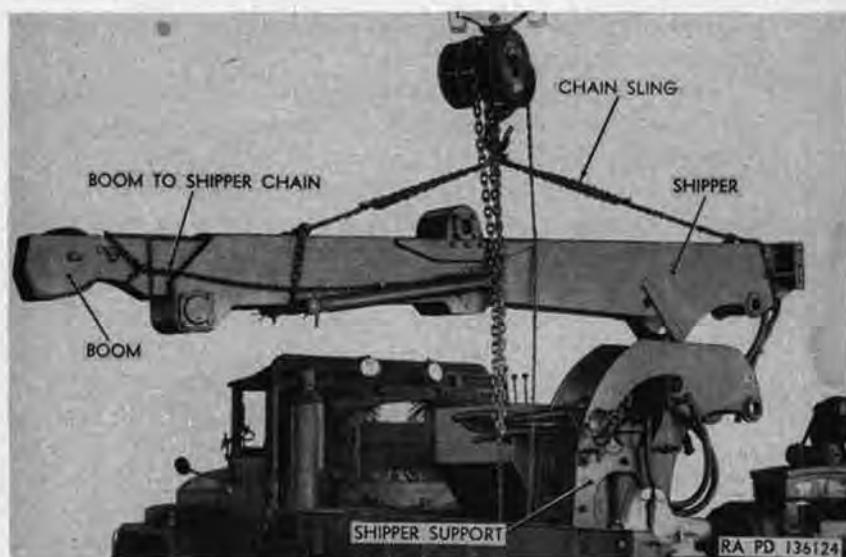

Figure 302. Removing boom and shipper assembly M62.
- (1) Secure boom to shipper with a chain (fig. 302) to prevent boom from rolling out of shipper during removal of assembly.
- (6) Attach a chain sling to boom and shipper assembly (fig. 302) and, using overhead hoisting equipment, raise hoist chain or cable just enough to support weight of boom and shipper assembly.
- (9) Lift boom and shipper assembly from shipper support (fig. 302), and remove from vehicle.
- (1) Using overhead hoisting equipment and chain sling (fig. 302), lift boom and shipper assembly into position between sides of shipper support.
- (1) Remove boom and shipper assembly (par. 277a), and place on suitable supports.
- (2) Remove overhead hoisting equipment, chain sling (fig. 302), and boom to shipper chain.
- (7) Secure boom (fig. 302) to shipper with a chain to prevent boom from rolling out of shipper during installation of assembly, and attach a chain sling to shipper. Attach overhead hoisting equipment to sling, and support boom and shipper assembly.
- (8) Install boom and shipper assembly (par. 277b).